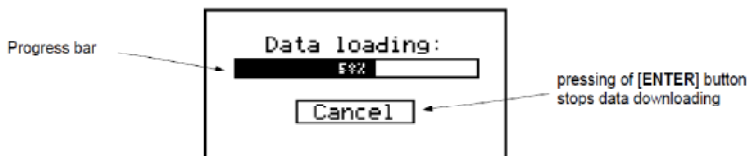
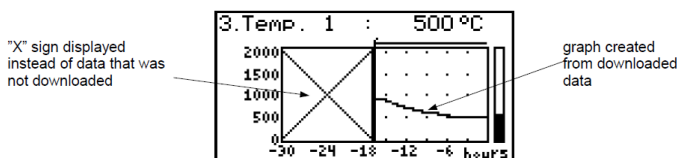

Fig. 6.13. Message displayed when loading data to be displayed on the graph.
Fig. 6.14. Display in “**Graph**” mode in the case where data upload was stopped.
- i** If downloading the data (measurement results from memory) necessary for displaying the graph takes more than 1 second an appropriate message is displayed (Fig. 6.13). Pressing [ENTER] will stop the data downloading process and display a graph made on the basis of the data downloaded so far. “X” will be displayed instead of data that was not downloaded (Fig. 6.14).